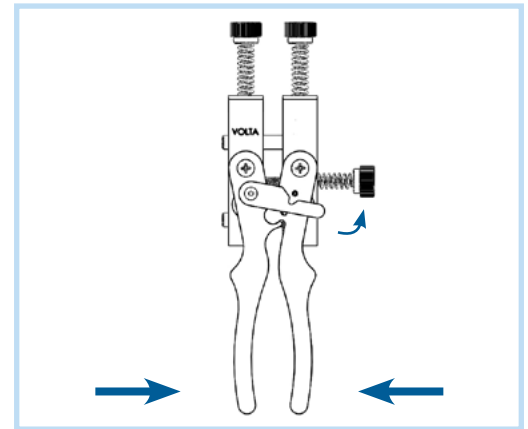

Fig. 13
2. Squeeze the handles together to open the Pliers and lock in open position using the locking bar (12). (Fig. 13).